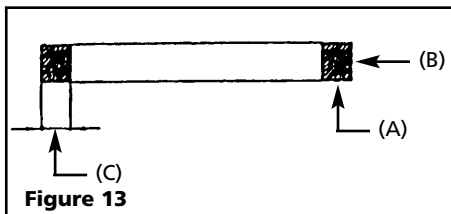

Figure 13
3. Inspect lower surface (A) and outer side surface (B) of ring (See Figure 13). Measure thickness (C) of ring with calipers. Replace if foreign matter enters (A, B) or deep damage is found or (C) dimension is less than 2.5 mm at any point around the rings circumference.